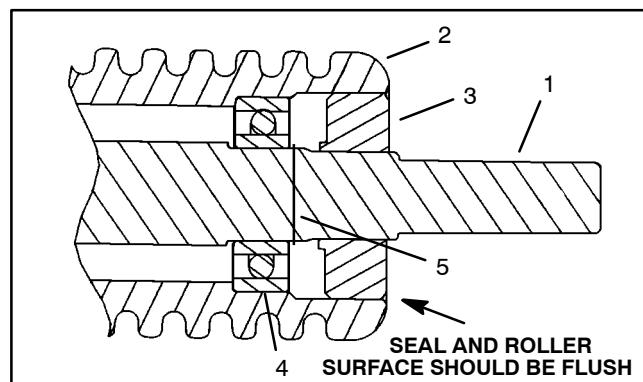

Figure 31
Bearing Installation (Fig. 31)
2. Using a seal installation tool or tubing that contacts as much of the seal face as possible, press seal into roller. Seal face should be flush with roller surface when correctly installed (Fig. 31).